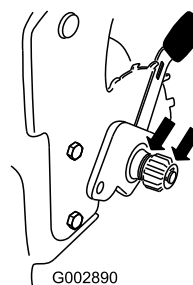

Figure 39
2. Apply a lubricating oil to the inner and outer sides of the gear as shown in Figure 39.